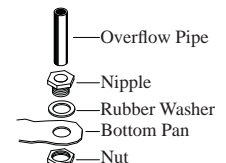

Fig. 5
- **Overflow assembly.** Remove nut and place nipple through the hole in the pan, with the rubber washer between the pan and the head of the drain nipple (Fig. 5). Screw on nut and draw up tight against bottom of pan. Insert overflow pipe in nipple to retain water. Overflow pipe may be removed to drain pan when necessary. The male threads of the Nipple are standard 3/4" garden hose threads. To drain water away from unit, drain pipe can be attached to the nipple using a NPT to GHT adapter which can be purchased at a local hardware store. Follow local plumbing codes.